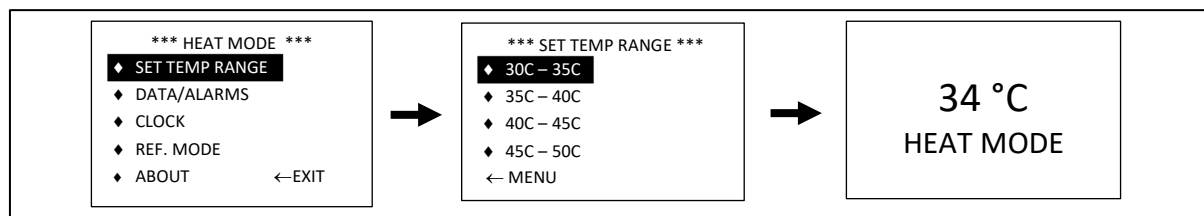

Figure 19: xFridge Heat Mode Temperature Selection
- Press MENU/SELECT and use ▲ and ▼ to highlight “SET TEMP RANGE” then press the MENU/SELECT as shown in Figure 19.